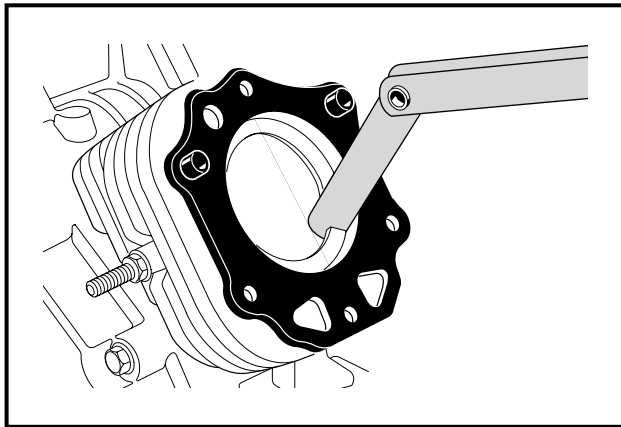

Figure 13-54 Measure Ring End-Gap
2. Using a feeler gauge, measure the ring end-gap (**Figure 13-54, Page 13-28**).